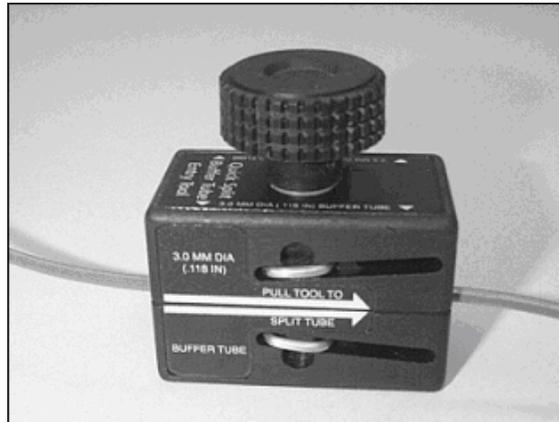

Figure 1 – Quick Split tool.
4.1 The Quick Split tool is comprised of upper and lower body sections (Figure 1). Each section contains a semi-circular groove that runs along the length of the tool. An injector-style razor blade is centered in the